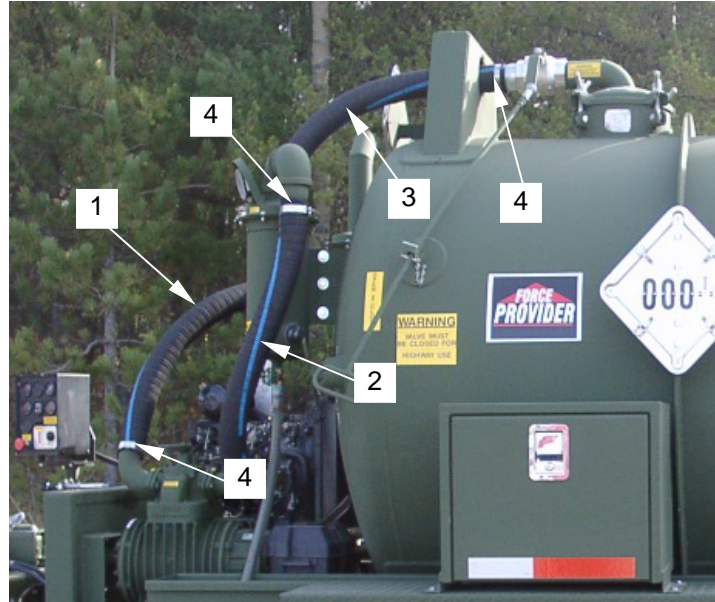

Figure 4. Air Hoses
5. Replace a breather hose (**figure 4, item 1**), vacuum pump hose (**figure 4, item 2**), or upper air hose (**figure 4, item 3**), by loosening the hose clamp and retaining (**figure 4, item 4**) and removing the hose to be replaced.